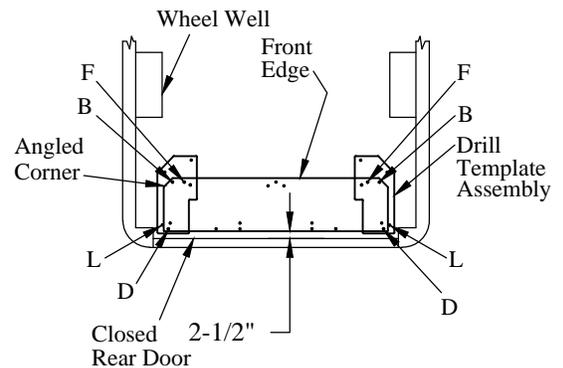

Figure 5: Drill template location (top view).
3. **Place** the drill template assembly in the rear of the van (Figure 5):
12. **Place** the drill template assembly in the rear of the van (Figure 5):